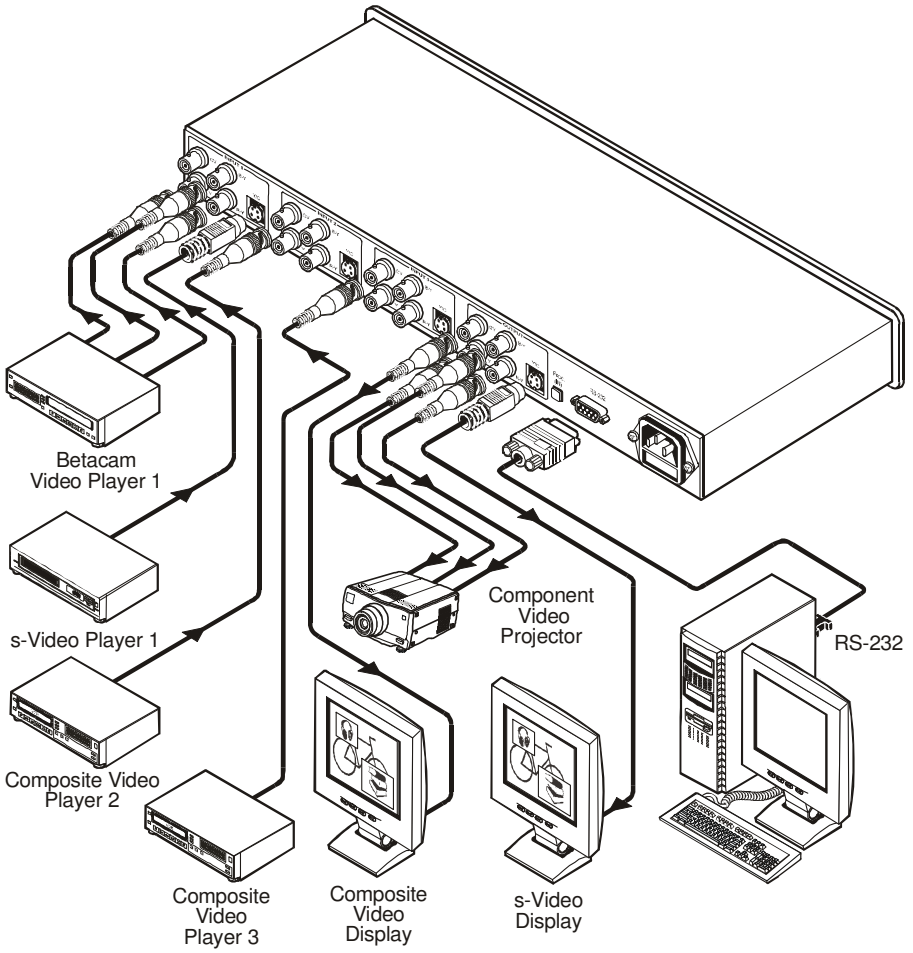

Figure 3: Connecting the PIP-300 Picture in Picture Inserter
To connect your **PIP-300**¹, as the example in Figure 3 illustrates, do the following²:
6. Connect the power cord⁶ (not illustrated in Figure 3).